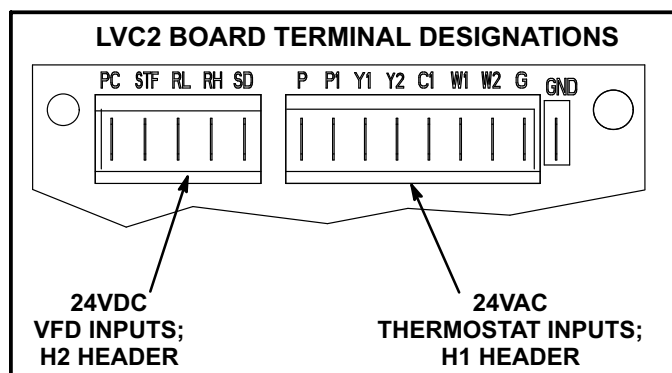

FIGURE 30
- 3- Check for 24VAC signal at the thermostat blower input (G to GND terminal). See figure 30.